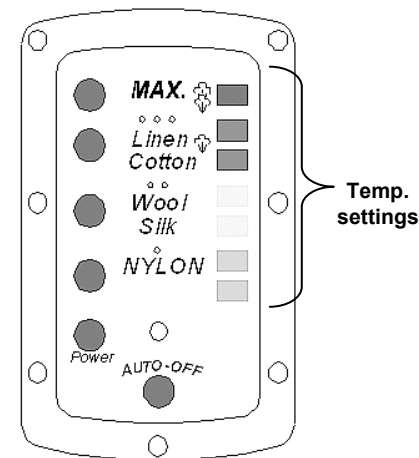

Fig. 5
- The light on the right side of the LED display panel will stop flashing when the desired temperature has been reached. (Fig. 5)